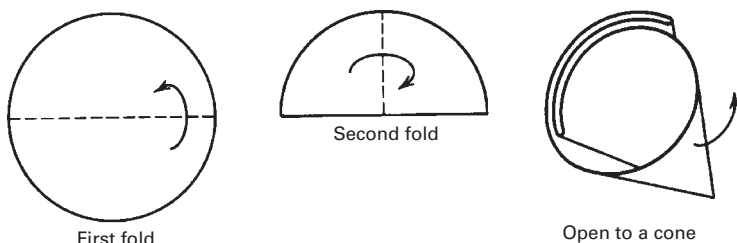

FIGURE 13.1 Folding filter paper for gravity filtration.
1. Fold up a **filter cone** from a piece of filter paper (Fig. 13.1). It should fit nicely, within a single centimeter or so of the top of the funnel. For those who wish to filter with more panache, try using **fluted filter paper** (see “Finishing the final fluted fan,” Fig. 13.12).